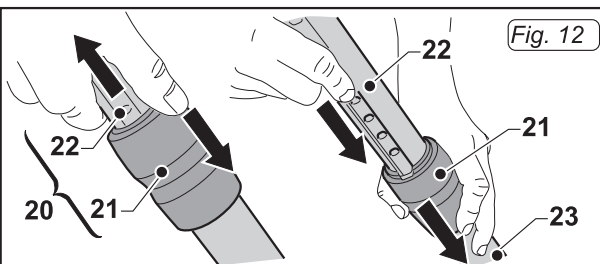

Fig. 12
- The length of the telescopic tube (20 Fig. 12) can be adjusted as follows:
- To lengthen the tube, press down on the ring nut (21 Fig. 12) and simultaneously extract the top part (22 Fig. 12) of the tube. Once the required length has been obtained, release the ring nut (21 Fig. 12) the tube will lock into the nearest locking position;
- To shorten the telescopic tube, use one hand to push the ring nut (21 Fig. 12) down and the other to reinsert the top tube (22 Fig. 12) into the lower sleeve (23 Fig. 12).